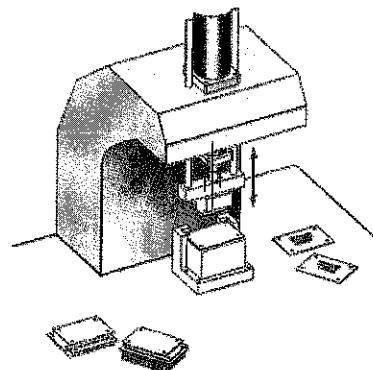

Figure 3 / Rajah 3
- (c) A hydraulic power pack with a low pump delivery rate is all that is available to operate a stamping machine (Figure 3) with electro-hydraulic. A suitable circuit must be used to increase the advance-stroke speed. Illustrate an electro-hydraulic circuit. The operation of machine should follow this sequence: